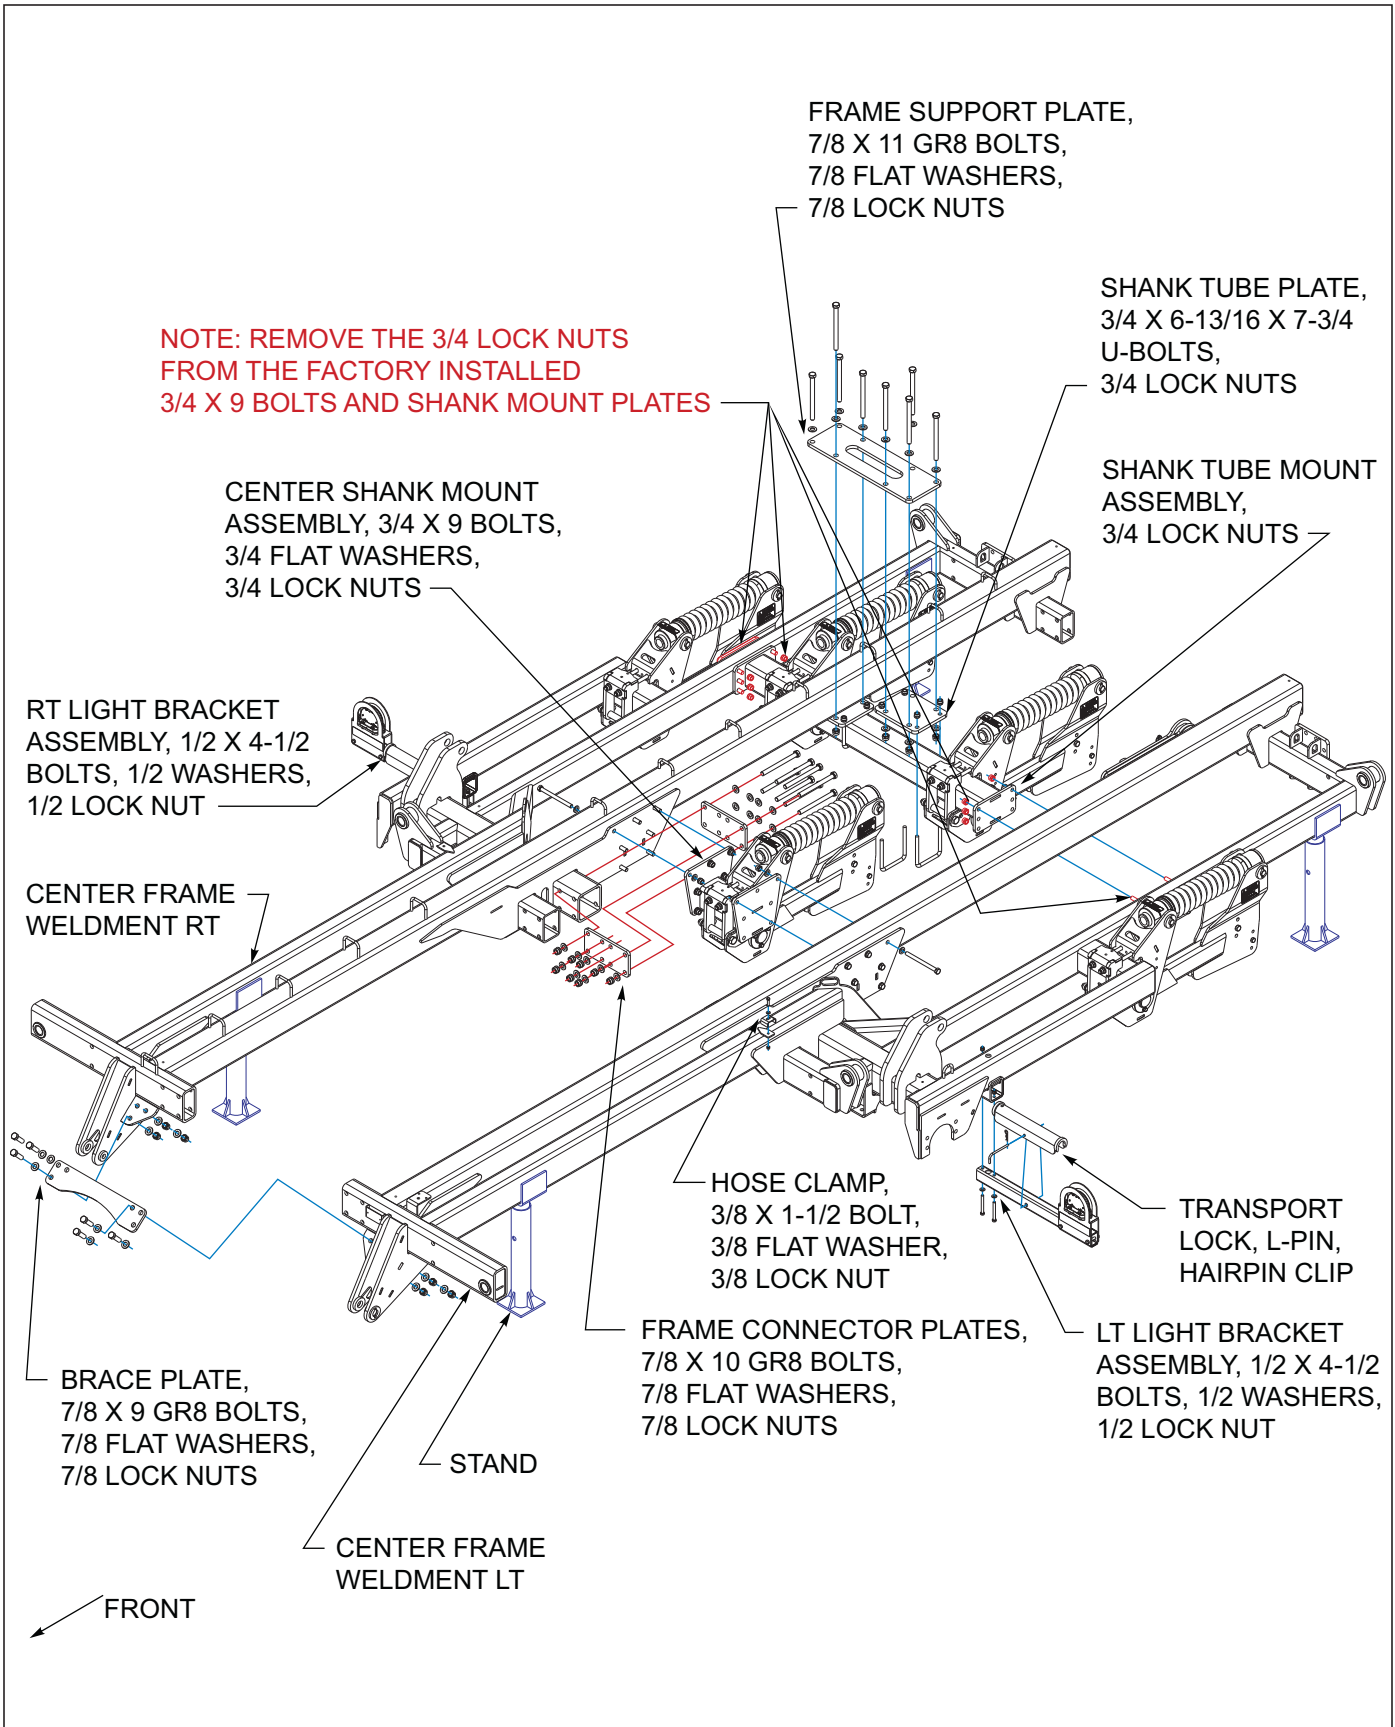

Figure 3-4: Center Frame Assembly 2411AFG-07-09 After 08/01/2022
- Place center frame weldment RT/LT assemblies on stands approximately 36" high. The assembly area should be a large level area of sufficient size to accommodate the Weatherproofer when fully assembled *See Figure 3-4*. RT and LT is determined from standing at the back looking forward.